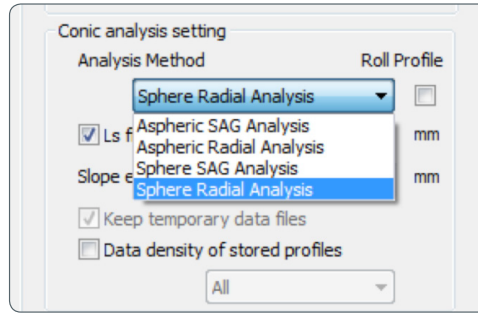

Figure 4 – The different fitting methods
- Under Conic analysis setting > Analysis method, note the different options available (Figure 4).